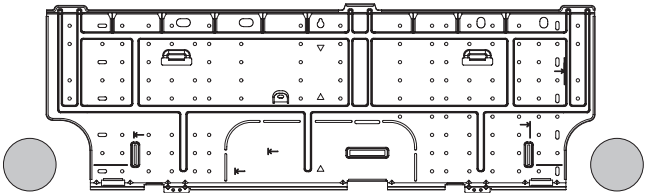

Fig. 13
- (1) Attach the rear panel to the wall with the 8 screws provided. (Fig. 13)